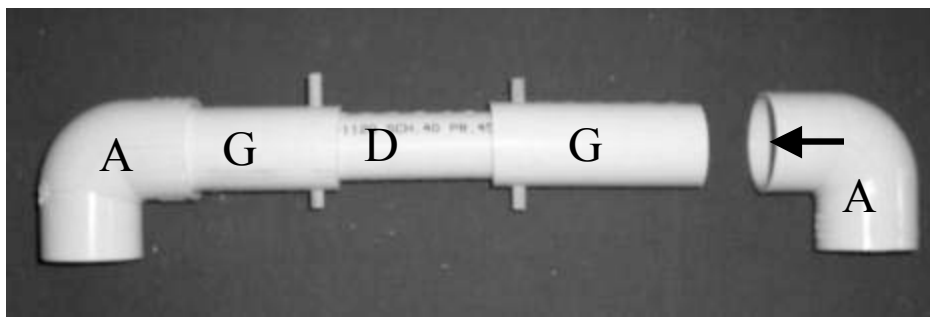

FIGURE 15 – Step 11 – Upper Rear Wheelchair Frame.
Step 11. Coat the inner surface of the opening on another Part A with PVC Glue and insert onto Part G joined with a clevis pin in Step 10, being careful to keep Parts A, G, and D oriented in the same horizontal plane as shown in Figure 15. Be sure that holes in Parts D and G are aligned and at the mid-point of the pipe. This is best accomplished by placing all components on a flat horizontal surface. Use the mallet to seat the Part G-Part A connection.